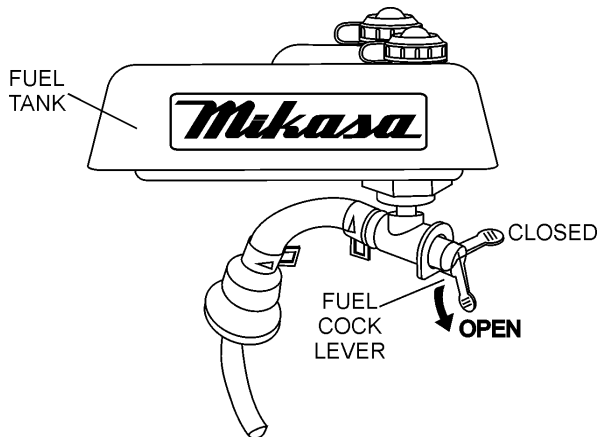

Figure 6. Fuel Shut-Off Valve (Open)
1. Open the **fuel shut-off valve** by moving the **fuel cock** lever to the **open** position (Figure 6).